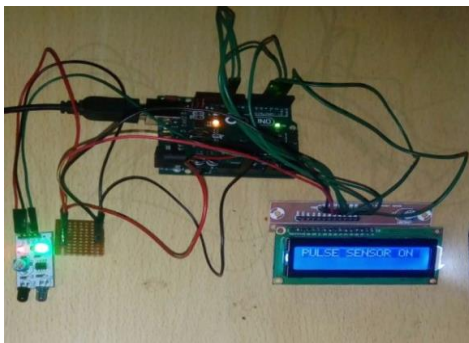

Figure 3: Tested view of the module.
2. When the finger is not placed towards the sensor, LED remains off, indicating that the sensor has not detected the pulse. So, the GUI (graphical user interface) graph remains empty and only the title will be displayed on the LCD monitor as shown in the figure 3 below.